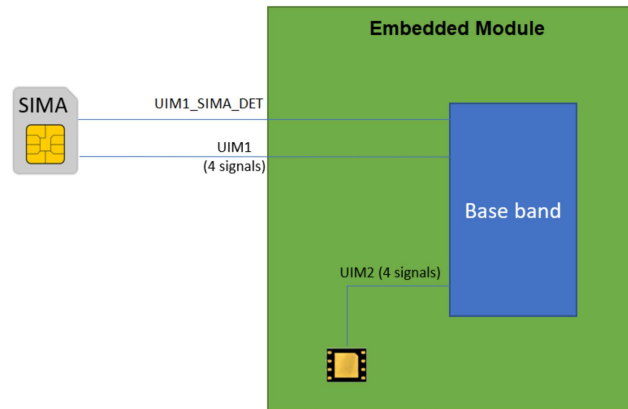
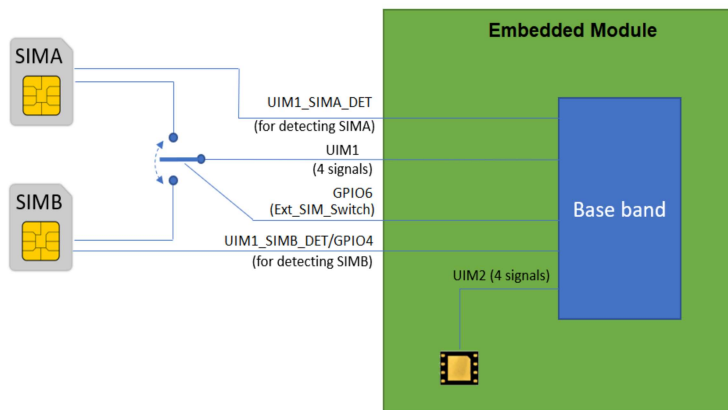

Figure 4-2: Single External SIM Configuration
Figure 4-3: Dual External SIM Configuration
- UIM1 — this interface allows control of 1.8V or 2.85V UIMs. For RC7611, RC7611-1, RC7612, RC7612-1, RC7620, RC7620-1, RC7630 and RC7630-1, it also supports single or external dual SIMs. For usage details, see Figure 4-2 and Figure 4-3.
Note: Figure 4-2 illustrates the recommended implementation of a single external SIM configuration. For a detailed UIM schematic, see Figure 5-8.
Note: Figure 4-3 illustrates the recommended implementation of a dual external SIM configuration. For a detailed external SIM schematic, see Figure 5-9.